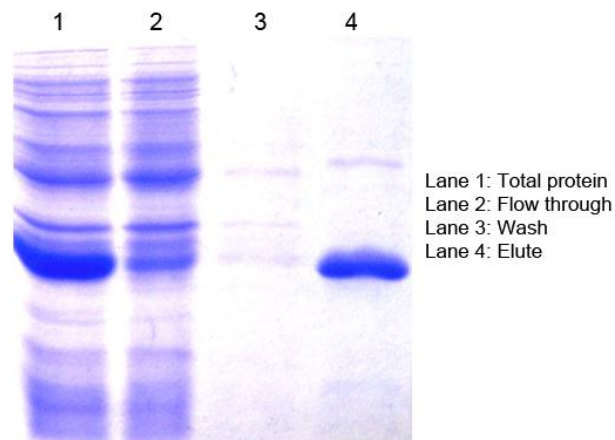

Fig.1. Purification profile using High-Affinity GST Resin
8. Aliquot 10-20 μ l of supernatant containing GST-fusion protein, flow through, wash and the eluted protein, respectively, and analyze all the samples by running SDS-PAGE to confirm the presence of the target protein. An example was shown in Figure 1.